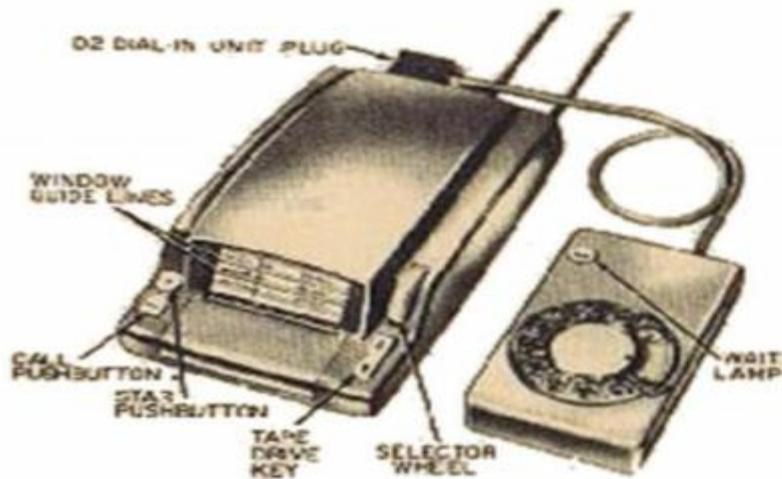

Figure 2. E-2 Automatic Dialer with Dial-In Unit Connected for Recording.
2.06 The dial-in unit (Figure 2) consists of a dial assembly, dial motor, dial shunt switch, dial start switch, pulsing contacts, and a WAIT indicator lamp.
- (c) Lift the front cover and locate a blank alphabetized space on the tape for the new entry by operating the tape drive key or selector wheel (Figure 2).